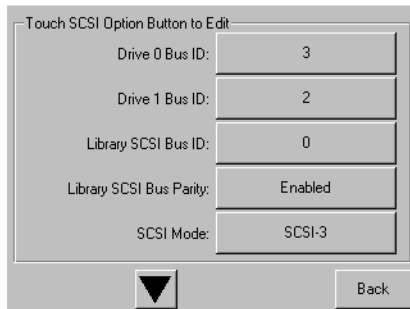

Figure 3-4. Drive 0 bus 0 data field screen
- d. Select OK to confirm. A new SCSI ID now appears in the Drive 0 Bus 0 data field (see Figure 3-4).